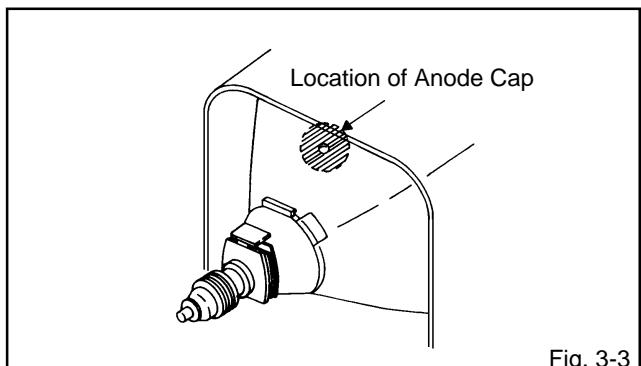

Fig. 3-3
1. Clean the spot where the cap was located with a small amount of alcohol. (**Refer to Fig. 3-3.**)